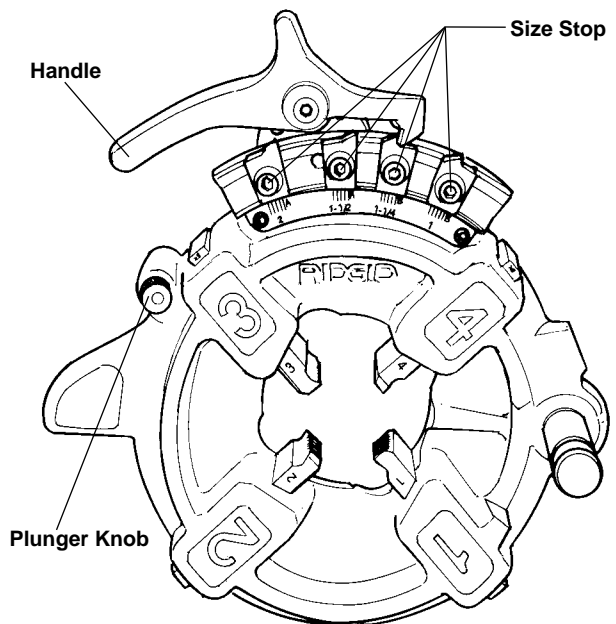

Figure 13 – Semi-Automatic Die Head
Semi-automatic die head (Figure 13) – When the end of the pipe being threaded is flush with the end of the number 1 die, hit the handle for the dies to release the pipe.
The Semi-Automatic Die Head (*Figure 13*) for right hand threads requires four sets of dies to thread pipe ranging from 1/8" through 2". One set of dies is required for each of the following pipe size ranges: (1/8"), (1/4" and 3/8"), (1/2" and 3/4") and (1" through 2"). Bolt threading requires a separate set of dies for each bolt size.
1. Depress handle so that cam plate rests (*Figure 13 – Model 816/817 Die Head*) against the stop (as shown).